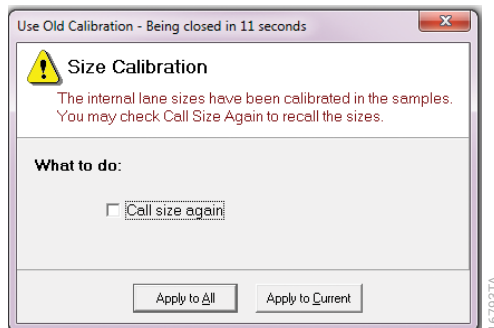

Figure 97. 'Use Old Calibration' window.
1. **Re-analyze with Run Wizard:** To re-analyze with the 'Run Wizard' tool, select the **Run Project** icon in the 'Main Analysis' window toolbar. The Run Wizard will open and display the most recently selected parameters. Adjust parameters as necessary, and select **OK** in the 'Additional Settings – HID Analysis' window. The 'Use Old Calibration' window will appear with the option to 'Call size again' (Figure 97). Only select **Call size again** if the size standard template listed in the 'Template Selection' window of the Run Wizard was changed or any of the parameters in the 'Data Process – HID Analysis' window were changed. Select the **Apply to All** button to apply the chosen 'Use Old Calibration' window setting to all samples. Alternatively, select **Apply to Current** to choose and apply the setting on a sample by sample basis. The 'Data Processing Event Log' window will appear again, and the data will be re-analyzed with the new parameters.